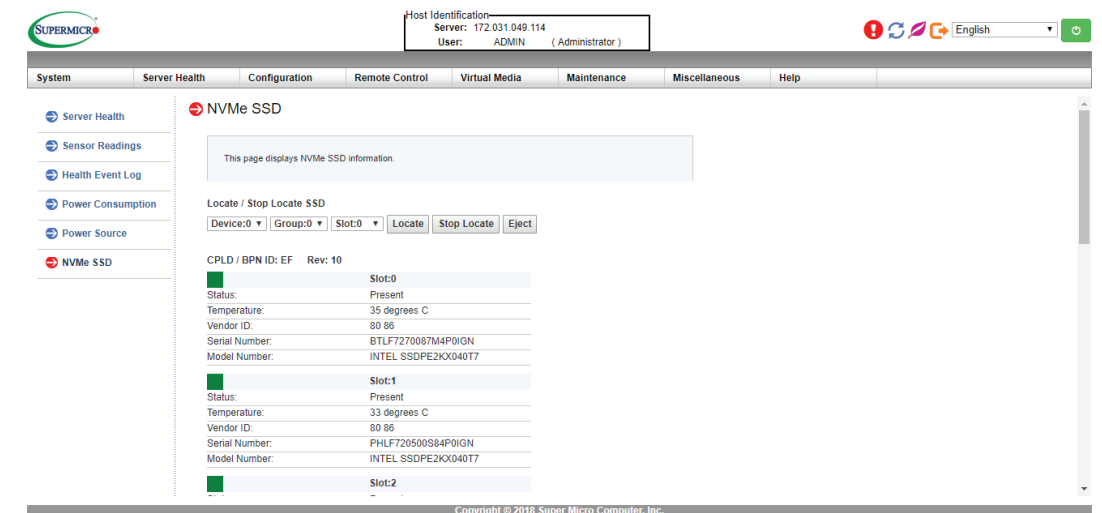

Figure 3-8. IPMI Screenshot
- **IPMI > Server Health > NVMe SSD** – Shows the temperatures of all NVMe drives, as in Figure 3-8.